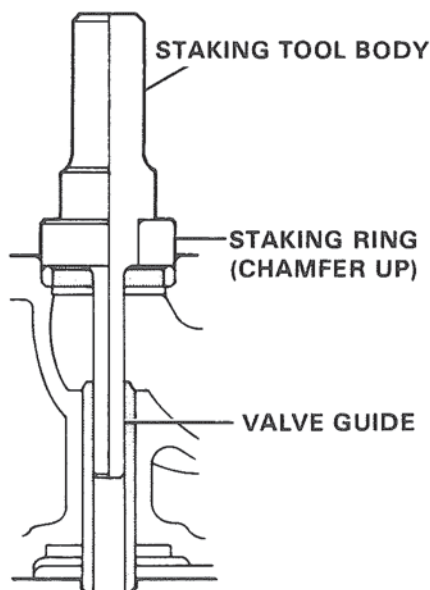

Figure 28. Staking Valve Seat.
F. Stake valve seat in place, use Special Tool. Figure 28.